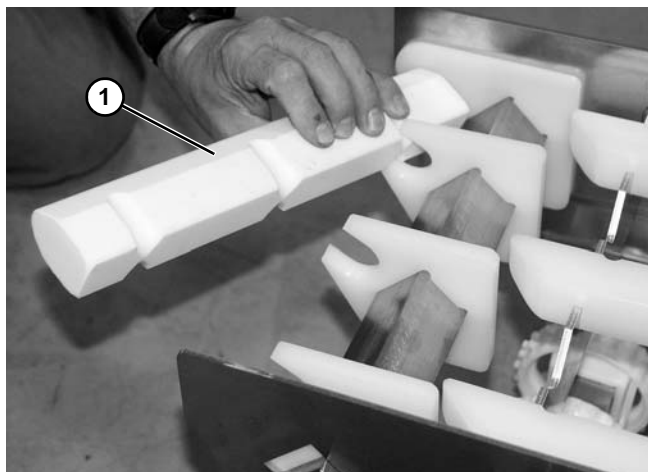

Figure 82
2. Remove return strip (Figure 82, item 1) on idler end.